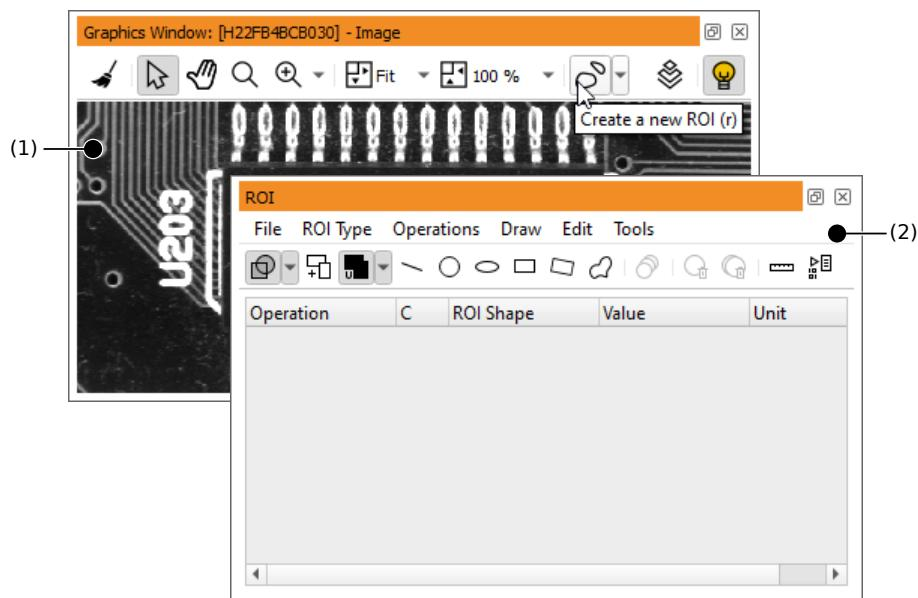

Figure 6.80: Base image for the creation of an ROI.
As an introductory example, the image shown in figure 6.80 (1) shall be used as the base image for a completeness check application. To determine the location and the alignment of the chip in subsequent images, parts of its imprint will be used as a landmark. Therefore, an ROI has to be created. It would be cumbersome to generate an ROI based on written-down pixel coordinates. Instead, it is much easier to draw a figure right into the image and let HDevelop generate the corresponding instructions.
This will open the dialog shown in figure 6.80 (2) which will act as a tool box for your new figure.